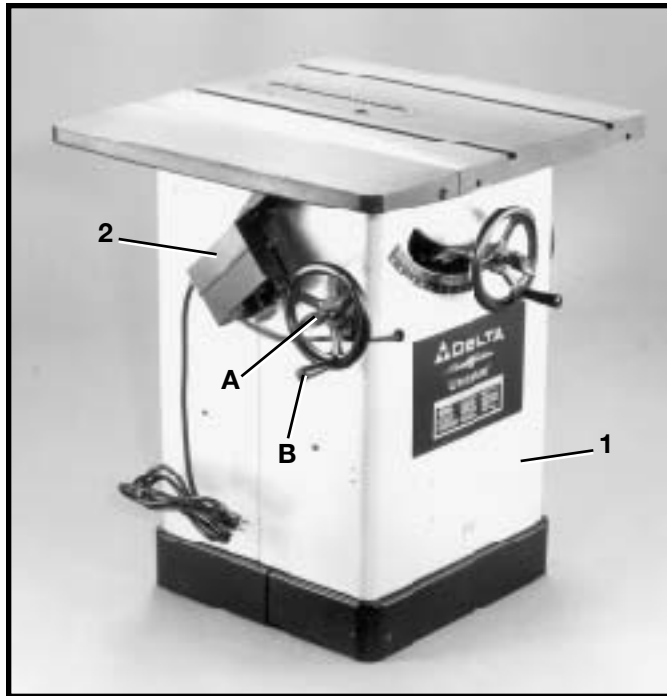
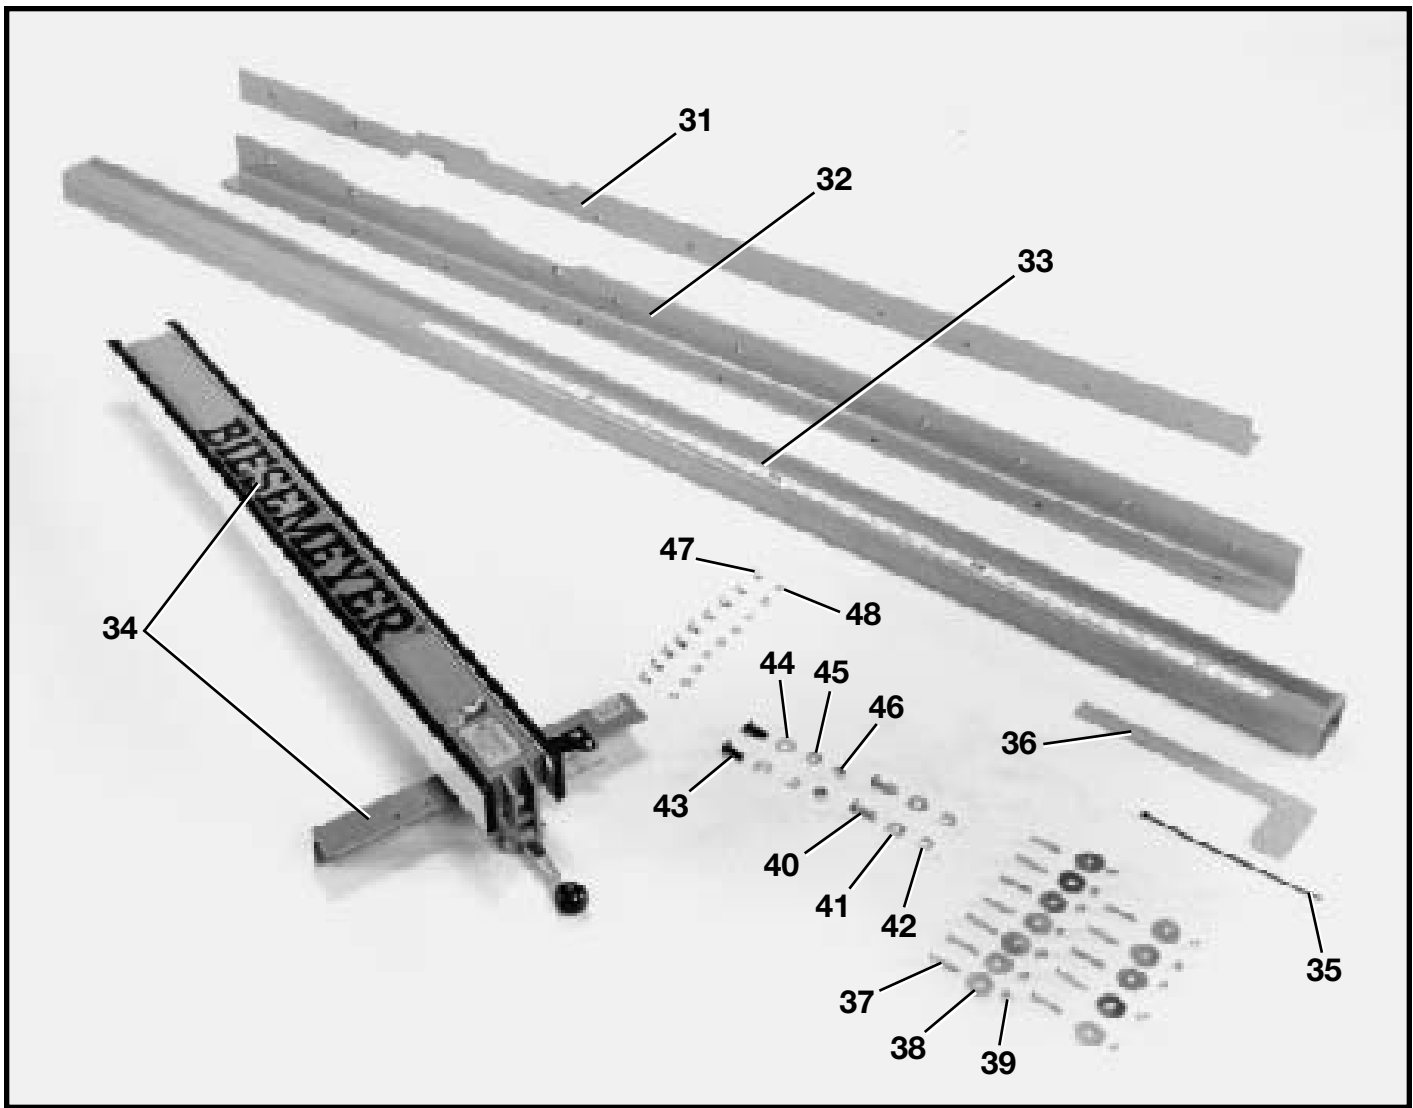

Fig. 2
Fig. 4
Carefully unpack the saw and fence system from the shipping containers. Clean all loose parts and remove the protective coating from the machined surfaces of the saw table. This coating may be removed with a soft cloth moistened with kerosene (do not use acetone, gasoline, or lacquer thinner for this purpose). Figures 2 and 3, illustrate the saw and all loose items supplied with the machine. Figs. 4 and 5, illustrate the items supplied with the fence system. **IMPORTANT:** The saw is shipped with the saw arbor in the 45 degree position. Loosen locking knob (A) Fig. 2, and turn handwheel (B) until the saw arbor is in the 90 degree position and remove the styrofoam packing from inside the saw cabinet. Tighten locking knob (A).